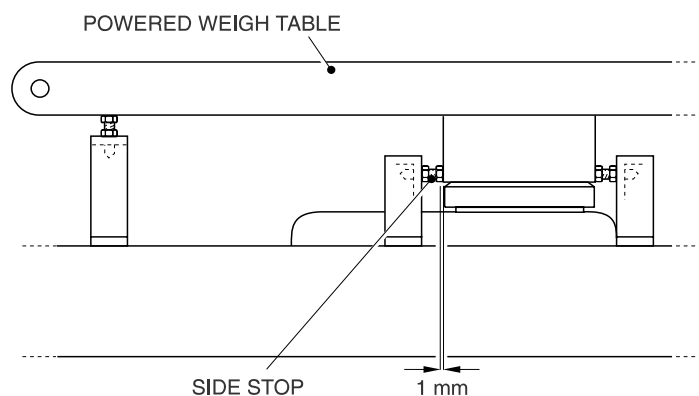

Figure 7.2 Weigh Platform Side Stops
2. Refer to Figure 7.2. Using a feeler gauge, set the gap between the head of each of the four side stop bolts and the support bracket to 1 mm. When each gap is correct, lock into position by tightening the lock nut.